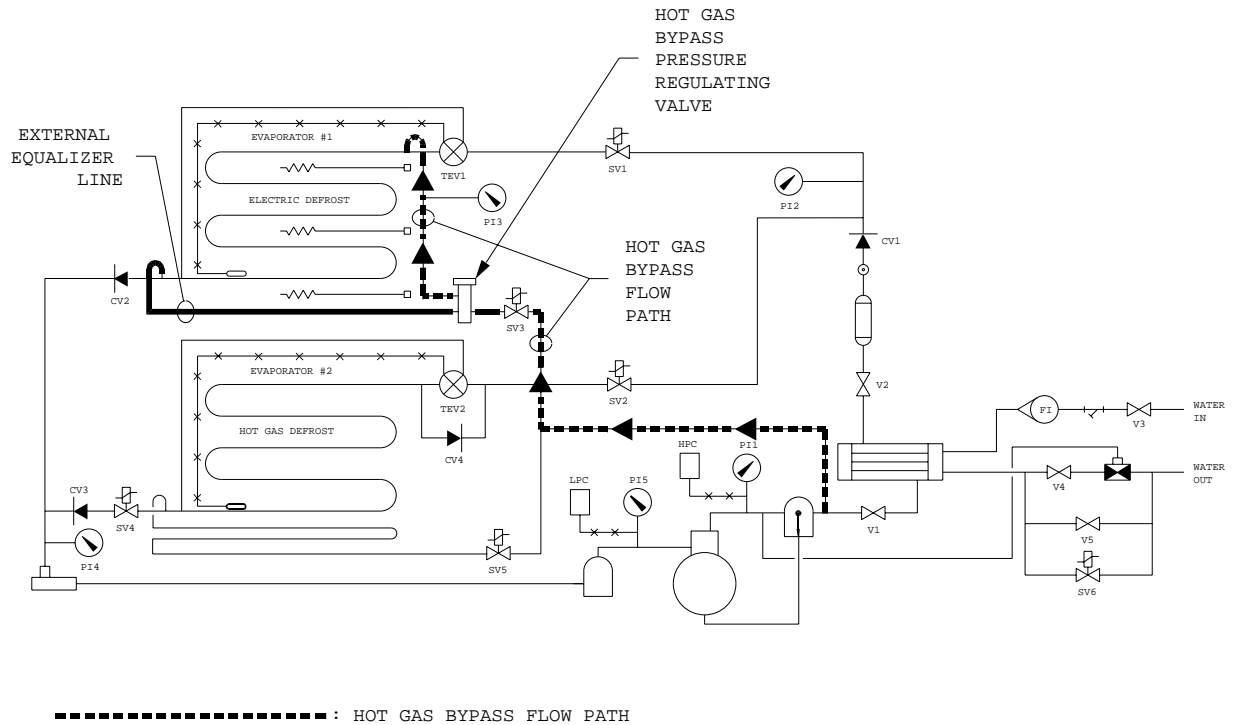

Figure 4-8. Location of the hot gas bypass pressure regulating valve in a refrigeration circuit.
As Figure 4-8 shows, the hot gas bypass pressure regulating valve is located between the compressor output and the low side of the evaporator inlet (between the thermostatic expansion valve and the distributor at the inlet of the evaporator). By inputting the hot gas at this location, the thermostatic expansion valve will respond to the increased superheat of the vapor leaving the evaporator and will provide the liquid required for desuperheating. Also, the evaporator serves as an excellent mixing chamber for the bypassed hot gas and the liquid-vapor mixture from the thermostatic expansion valve. This ensures a dry vapor reaching the compressor suction. Oil return from the evaporator is also improved since the velocity in the evaporator is kept high by the hot gas.
**Note:** The location of the ports of the hot gas bypass pressure regulating valve shown in Figure 4-8 does not correspond to the current location on the valve. The location was modified to simplify representation in the schematic circuit.